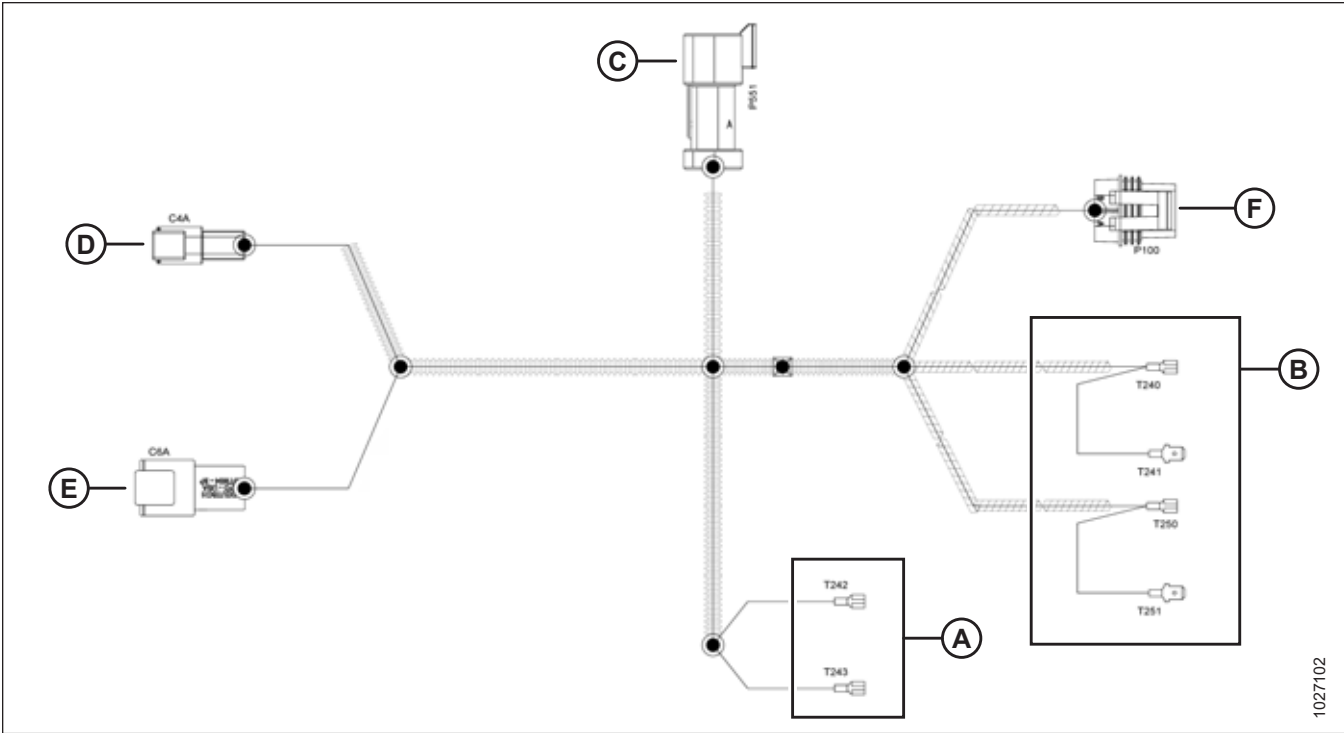

Figure 5.60: Cab Draper Control Harness (MD #304210)
For more information, refer to Figure 5.60, page 108.
24. Connect the feed end of the cab draper control harness ([B] in Figure 5.60, page 108) to the auxiliary power outlet strip as follows: